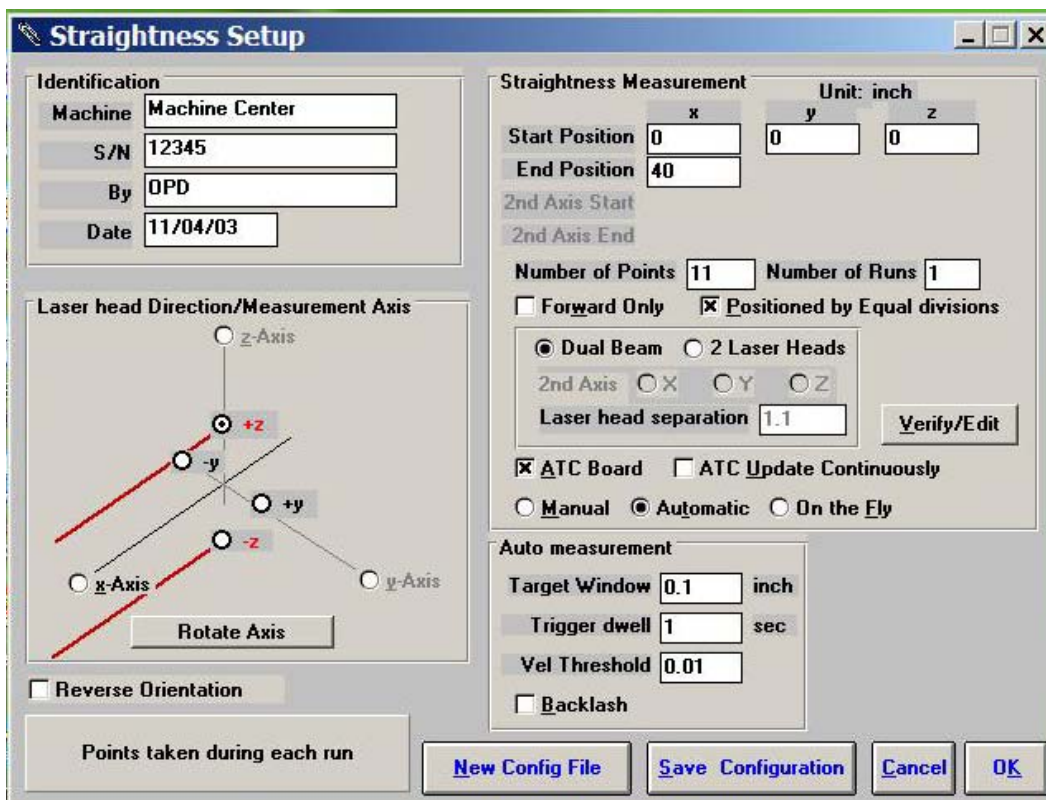

Fig. 5-2 Straightness Measurement Setup Screen
## 5.2 Straightness Measurement Setup Screen (Fig. 5-2)
- 1) Choose which axis the lasers are pointed in (X, Y or Z axis). In Fig. 5-2, it is the X-axis.
2) Double click the **X-axis**, **Y-axis** or **Z-axis** axis button until the red beams are pointing in the direction that the laser is pointed in referenced to the machine. The axis labels on the screen designate the positive direction of the machine. In Fig. 5-2, the laser is pointed in the positive x-axis. Click the Rotate Axis to rotate axes orientation to match with the machine coordinate.
3) Choose the axis of the straightness measurement. The two beams of the laser head are in the same plane of the straightness measurement. In Fig. 5-2, the two beams are aligned with the y-axis.
4) LDDM #1 (beam #1) is designated by the laser beam exiting closest to the center of the laser head. On the machine, visually place the axis that is being measured linearly between LDDM #1 and LDDM #2. If LDDM #1 is on the positive side of the straightness axis, click on the positive straightness axis. If LDDM #1 is on the negative side of the straightness axis, click on the negative straightness axis. In Fig. 5-2, LDDM #1 was found to be in the negative side of the y axis while measuring the x axis linearly.
5) If the laser head is moving, switch the sign of the dot in the straightness axis. In Fig 5-2, if the laser head was moving, the dot would be now placed on the +y axis.
Straightness Measurement Setup Screen (See Fig. 5-2):